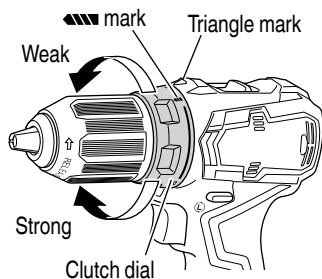

Fig. 11
6. Confirm the clutch dial position (See Fig. 11).
- (2) Tightening torque indication (See Fig. 11)
- (3) Adjusting the tightening torque (See Fig. 11)